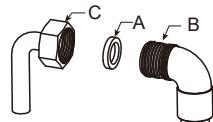

Fig. 8
When making the gas connection, it is important to place the gasket (A) in between the inlet pipe (C) and the elbow (B) to ensure a tight gas seal (Fig. 8).